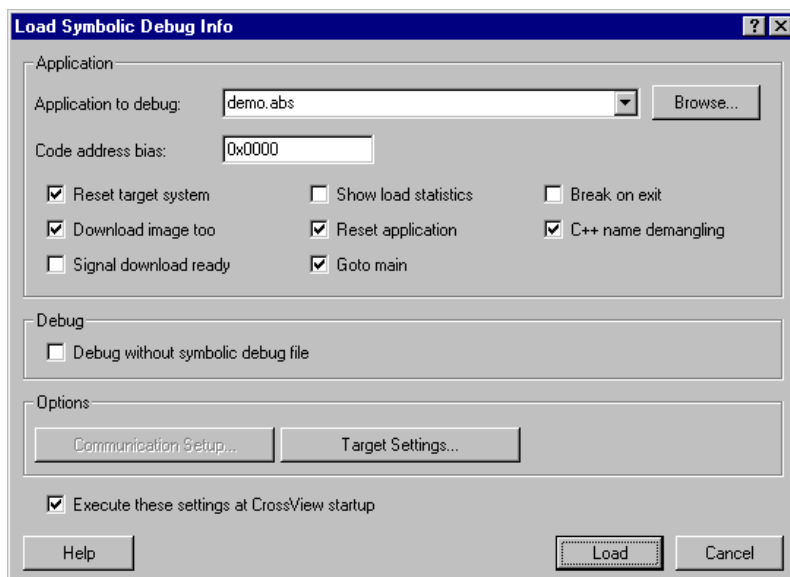

Figure 1-7: Loading Symbolic Debug Information
- Select `File | Load Symbolic Debug Info...` from the menu. This opens up the Load Symbolic Debug Info dialog box, as shown in figure 1-7.